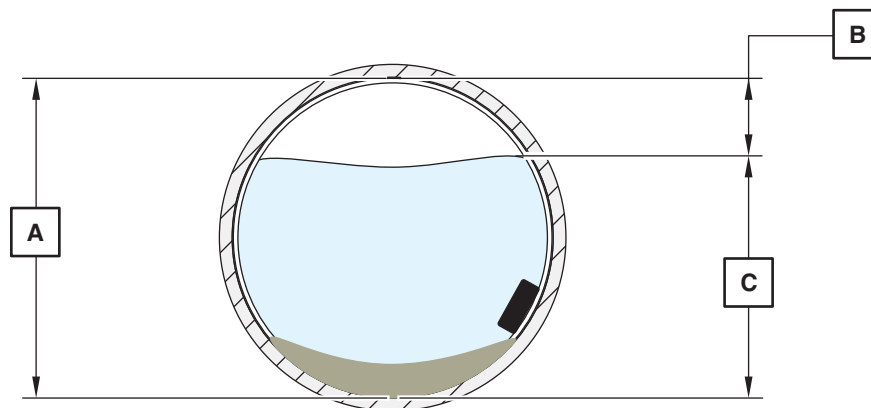

Figure 16 Measuring the Water Level
2. Take a physical measurement of the water depth by measuring the distance from the top of the pipe to the surface of the water (item B, Figure 16), and subtracting this number from the pipe diameter (item A, Figure 16). The resulting number is the water depth (item C, Figure 16).